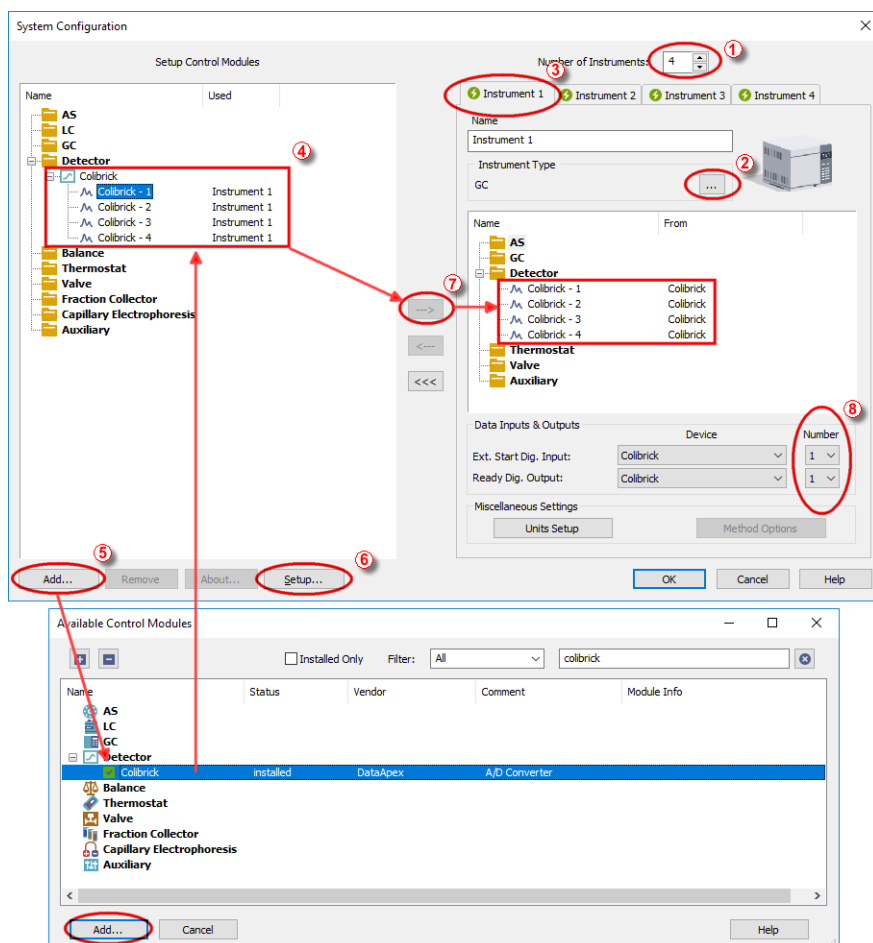

Fig 5: System Configuration dialog
- Invoke the **System Configuration** dialog using the *System – Configuration...* command or via  icon. See **Fig 5** on pg **9**.